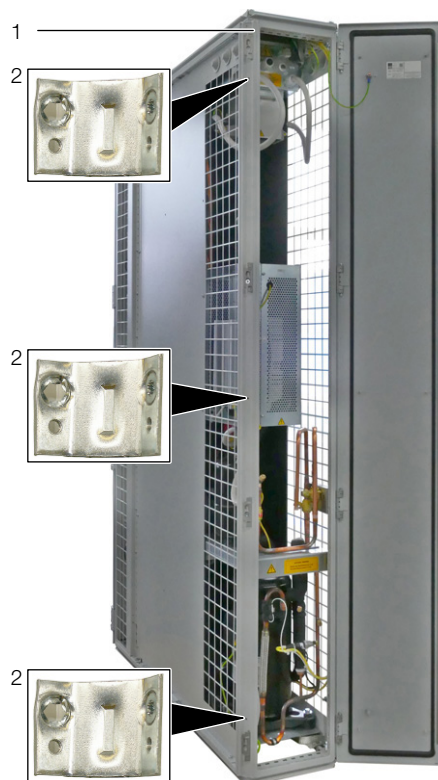

Fig. 13: Rear
- Using the corresponding assembly screws, fasten three baying connectors each (fig.13, item 2) onto the attachment points provided in the mounting strips on the front and rear of the LCP DX (fig.13, item 1).